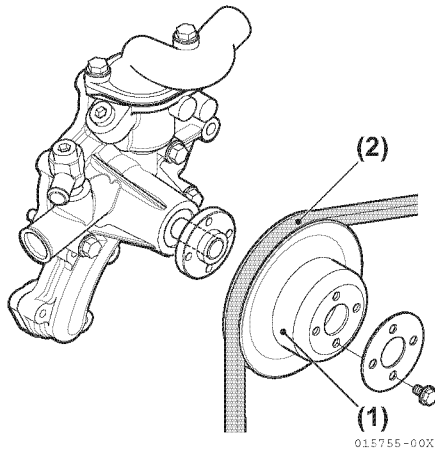

Figure 6-53
2. Remove the spacer, V-pulley (**Figure 6-53, (1)**) and cooling fan V-belt (**Figure 6-53, (2)**).